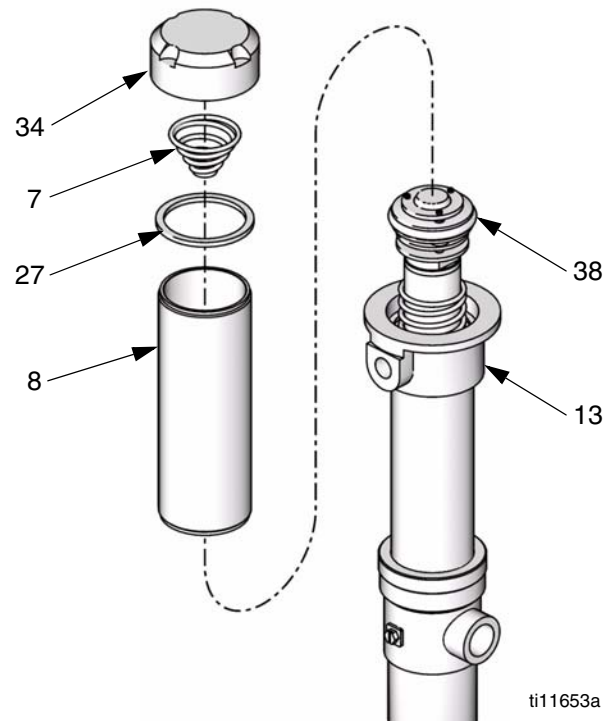

FIG. 10
1. Unscrew the cylinder cap (34) from the cylinder (8). To remove the spring (7), pry gently under the coils in the direction of the helix. Inspect the spring (7) and gasket (27) for wear or damage; replace if necessary. See FIG. 10.
2. Unscrew the cylinder (8) from the air motor base (13) and lift the cylinder straight off the air piston (38). Unscrew by hand or use a chain wrench to prevent distortion of the cylinder's shape. See FIG. 10.
- Reinstall the spring (7) and gasket (27) on the cylinder cap (34) and screw the cap onto the cylinder (8). Screw the cylinder into the air motor base (13). See FIG. 10.